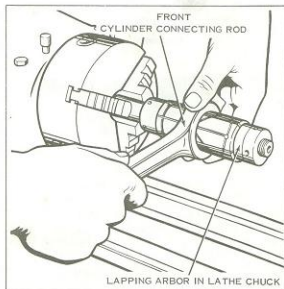

Figure 3-42. Lapping Connecting Rod Bearing Race
1. Connecting rod lower races that are likely to clean up within the range of oversize bearing rollers and are otherwise in serviceable condition, should be trued and sized with Connecting Rod Lapping Arbor, Part No. 96740-36 as shown in Figure 3-42.